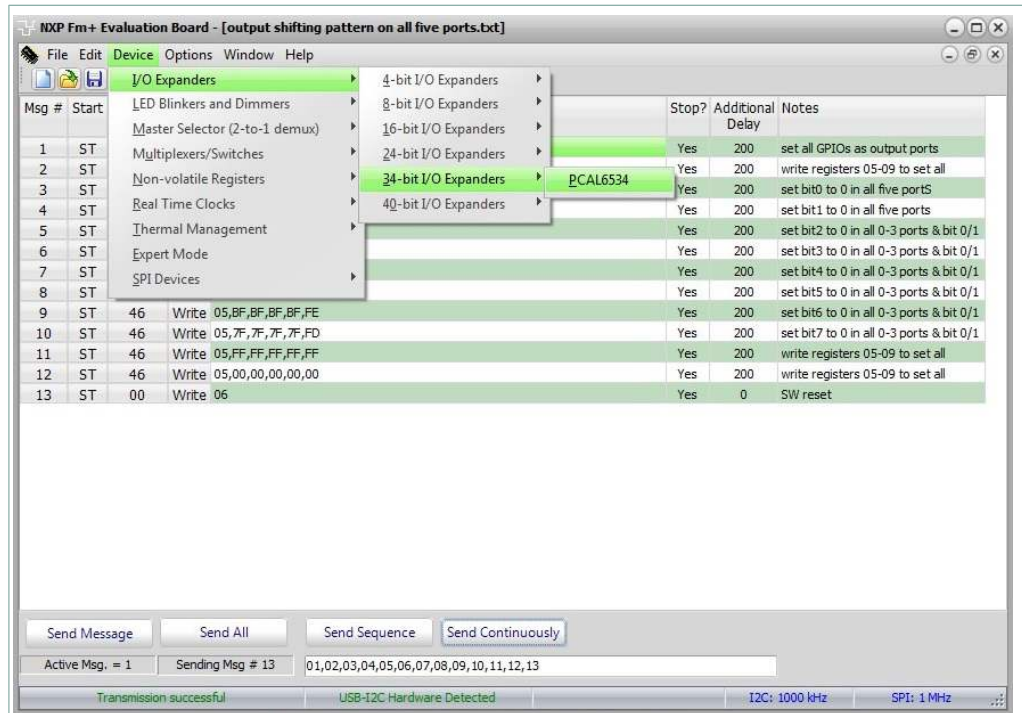

Figure 9. Device selection screen for PCAL6534
1. Select 34-bit PCAL6534 from I/O Expanders as shown in Figure 9.